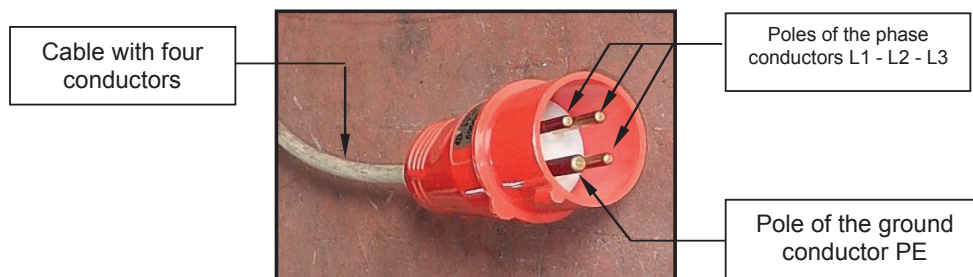

Figure 11 - Electrical power plug
The machine is supplied with a 4-pole cable (3 phase poles + 1 ground pole PE); see Figure 11. Use the specific ground system, whose efficiency must be checked periodically, and do not connect to gas or water piping or other metal structures.
- **having removed the plug** in Figure 11 **from the electrical power supply** (the disconnected plug must remain clearly visible to always ensure the absence of electrical power supply to the machine), to avoid the machine or its parts being started by others.